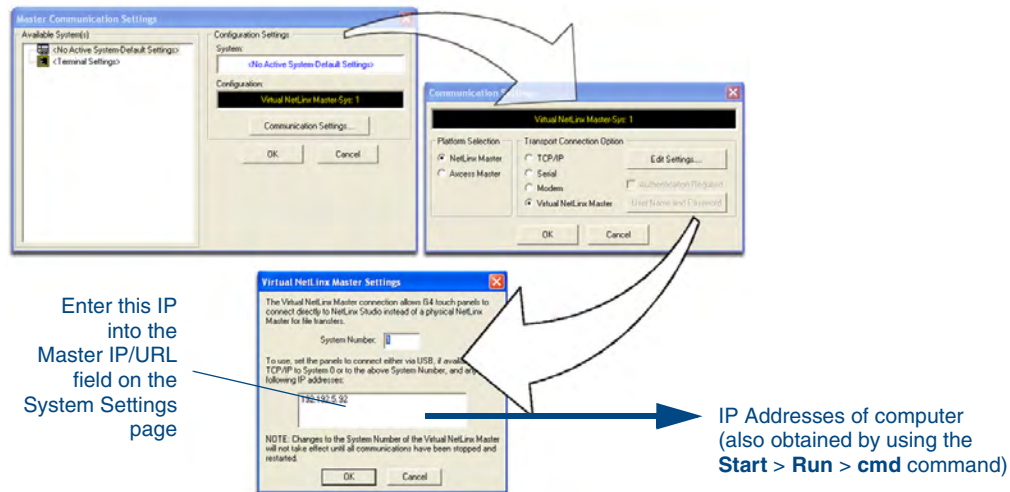

FIG. 29 Assigning Communication Settings and TCP/IP Settings for a Virtual Master
3. Select **Settings > Master Communication Settings**, from the Main menu to open the Master Communication Settings dialog (FIG. 29).
7. Click the **Edit Settings** button (*on the Communications Settings dialog*) to open the Virtual NetLinx Master Settings dialog (FIG. 29).